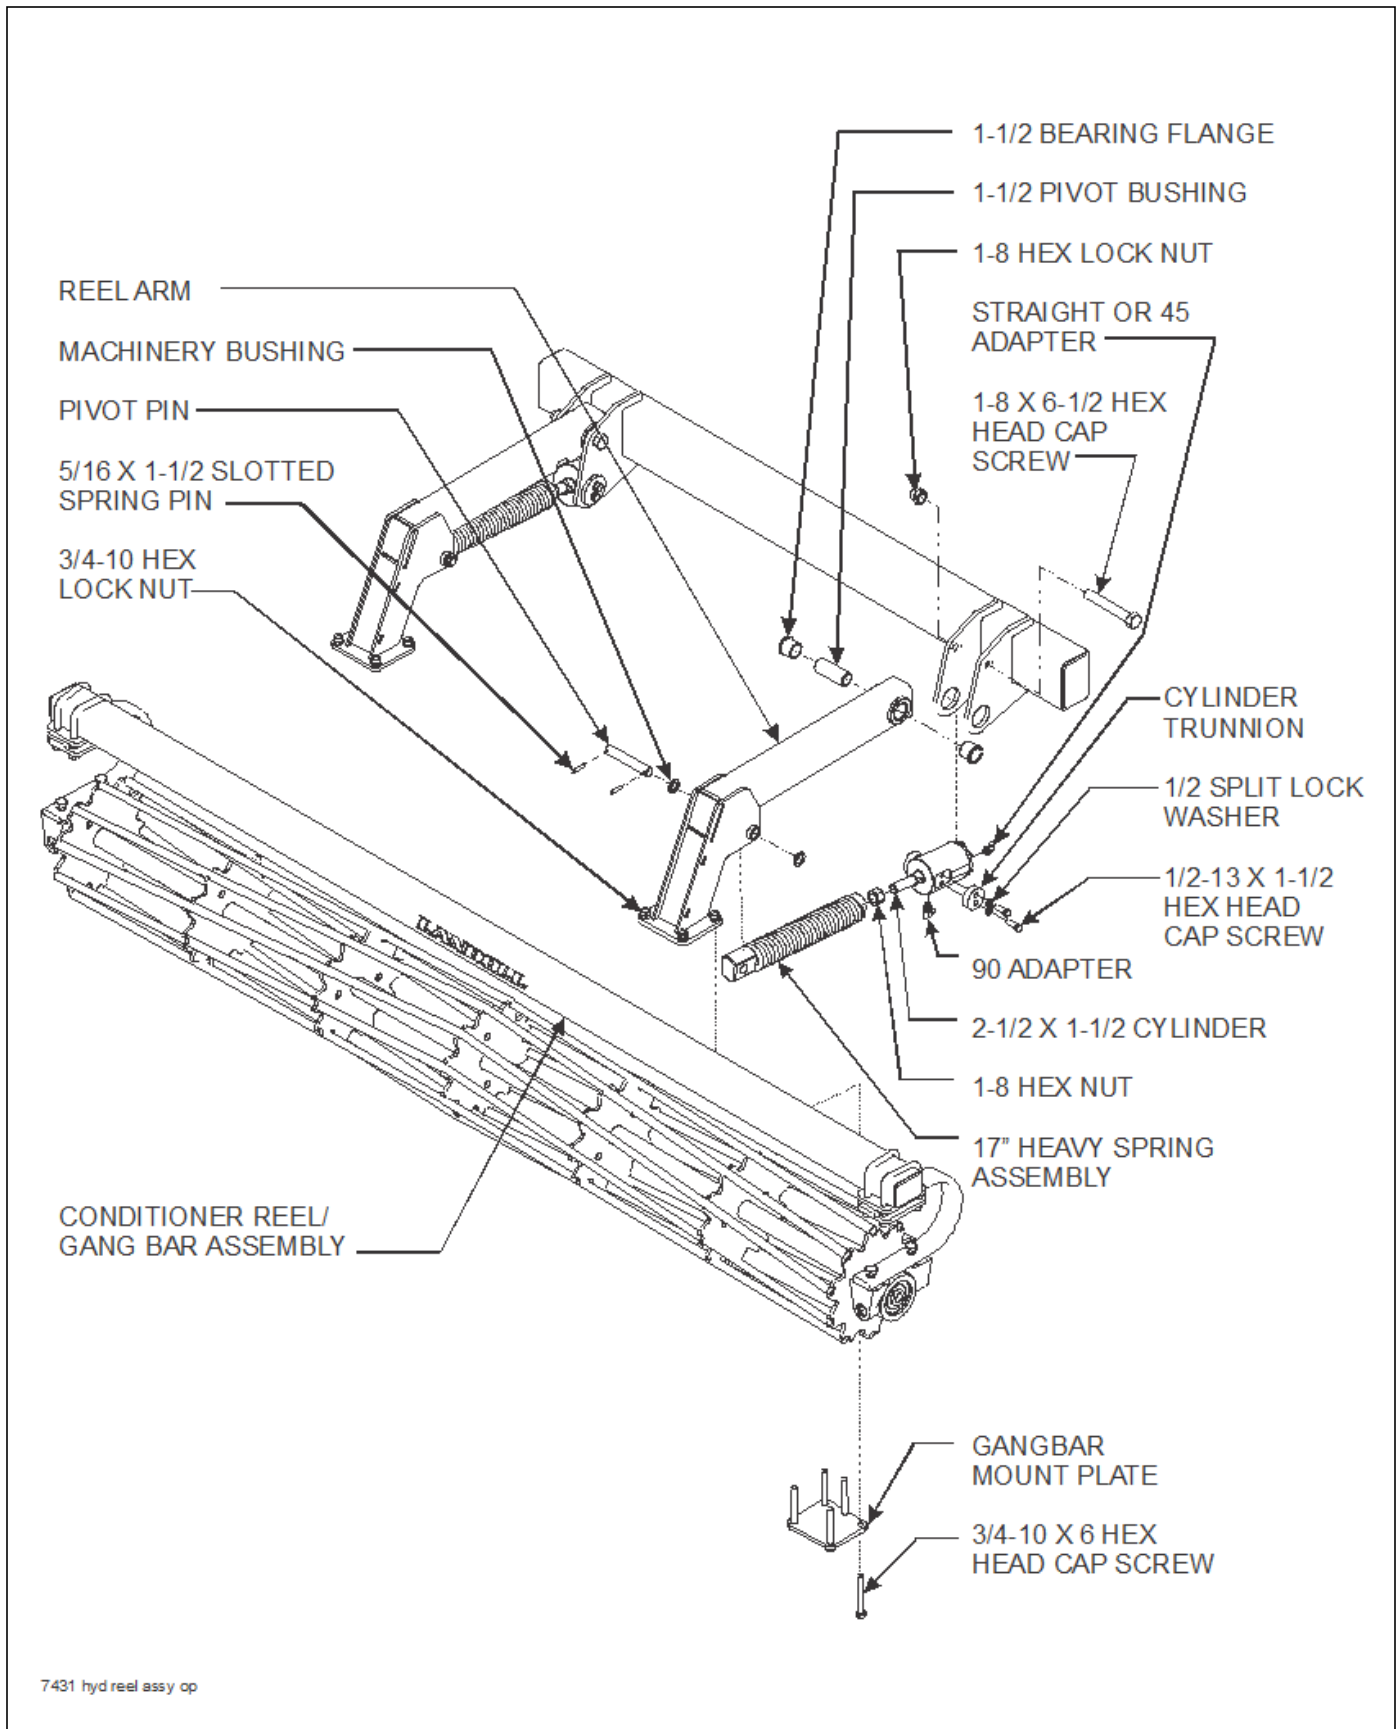
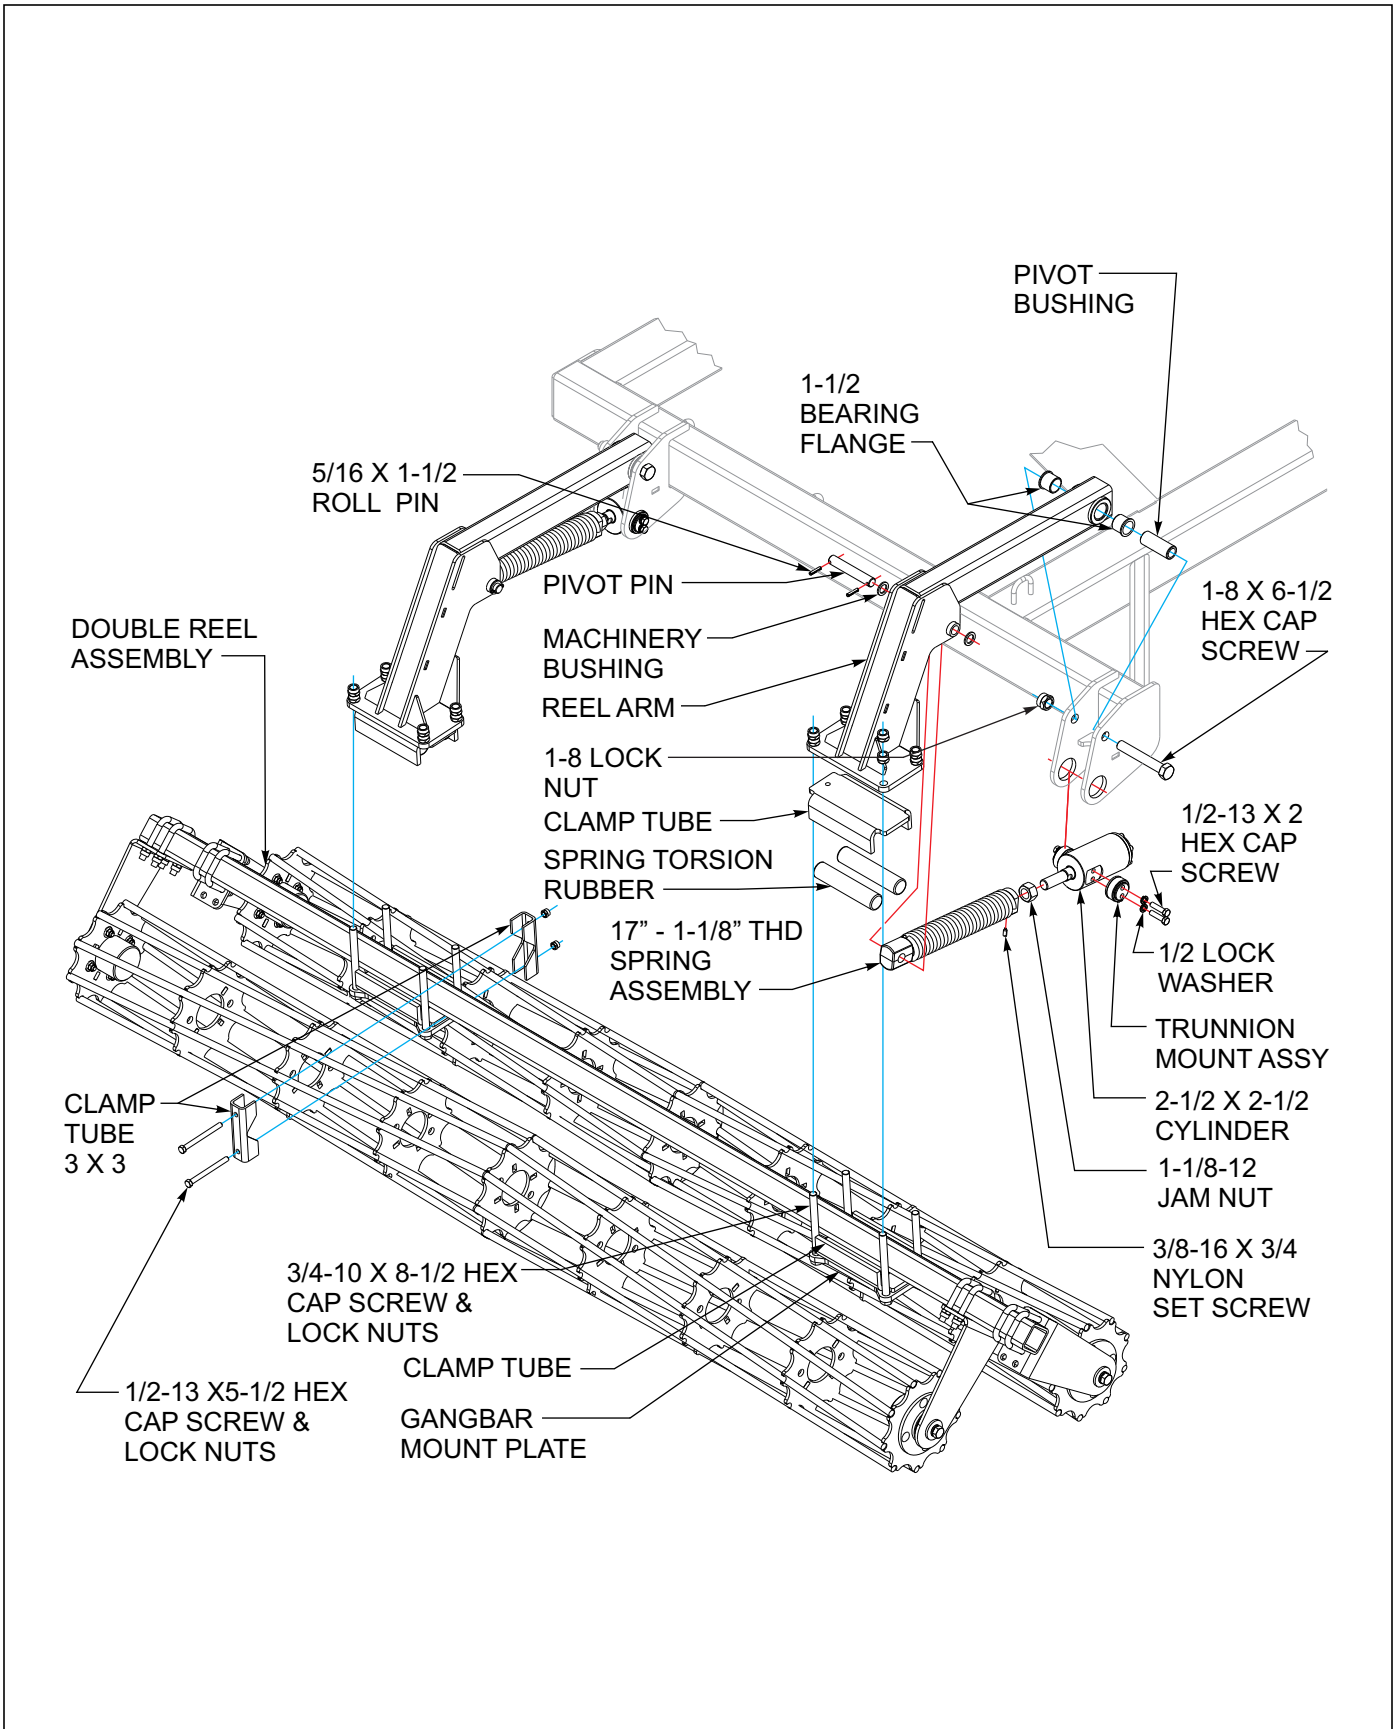

Figure 3-32: Finishing Hydraulic Conditioner Single Reel Installation (Option)
Figure 3-33: Finishing Hydraulic Conditioner Double Reel Installation (Option)
1. Attach reel arm assemblies to rear frame in top hole using 1-8 x 6-1/2 hex head cap screw, pivot bushing, flange bearings, and hex lock nut (See **Figure 3-32.**) for single reel or (See **Figure 3-33.**) for double reel.